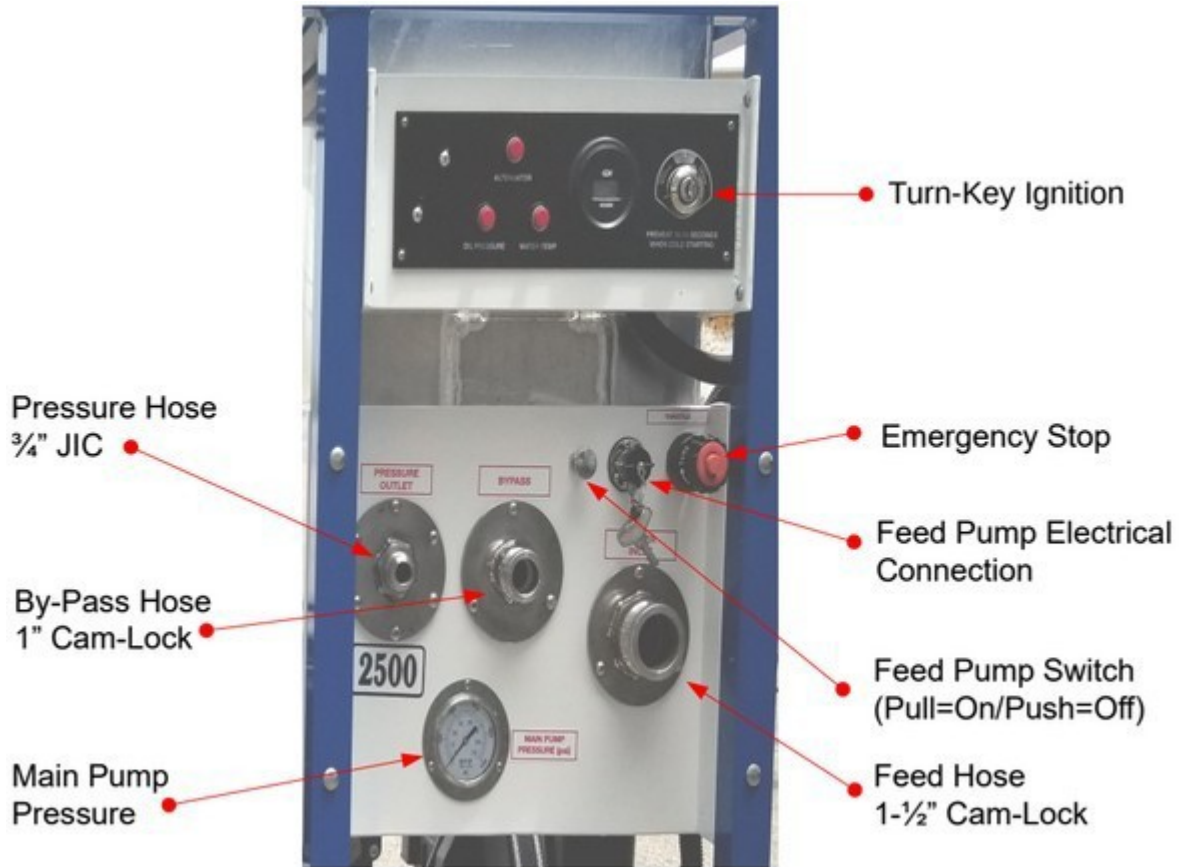

Figure 4.6 – Connecting the Water Source / Feed Pump
3. Connect the cam-lock socket on the 1" clear PVC feed hose to the water inlet connection on the control panel (See **Figure 4.6**).
7. Pull the feed pump "ON" / "OFF" switch out to activate the feed pump (See **Figure 4.6**).